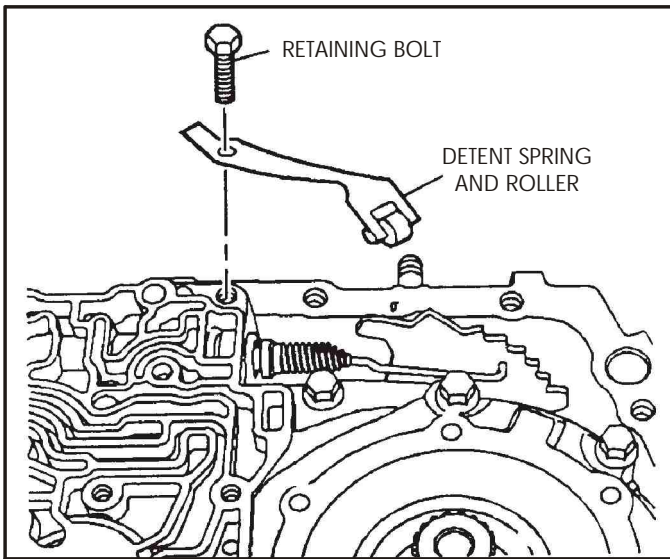

Figure 58
9. Remove the bolt retaining the detent spring and roller assembly (See Figure 58).